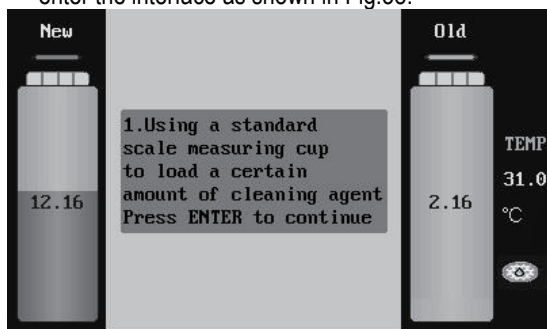

Fig.38
- 11) Select "Cleaning Speed" option in the Main Menu of [Sensor Calibration], and then press ENTER key to enter the interface as shown in Fig.38.